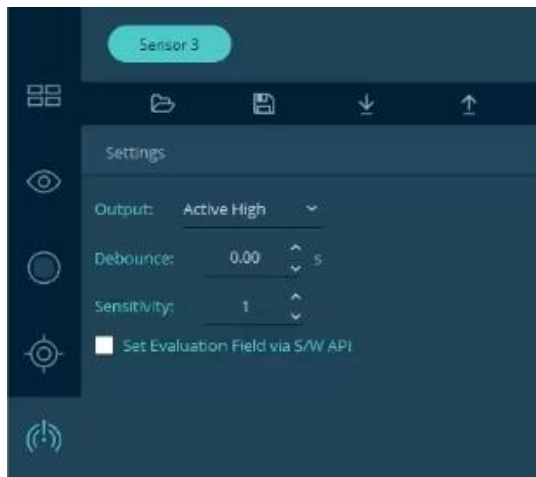

Figure 81. QORTEX Aware: Settings Panel Options
2. Expand the **Settings** panel. See Figure 81. QORTEX Aware: Settings Panel Options.
1. From Q-View, select **QORTEX Aware**  button > **CONFIGURE** > **Settings** panel. See Figure 81. QORTEX Aware: Settings Panel Options.